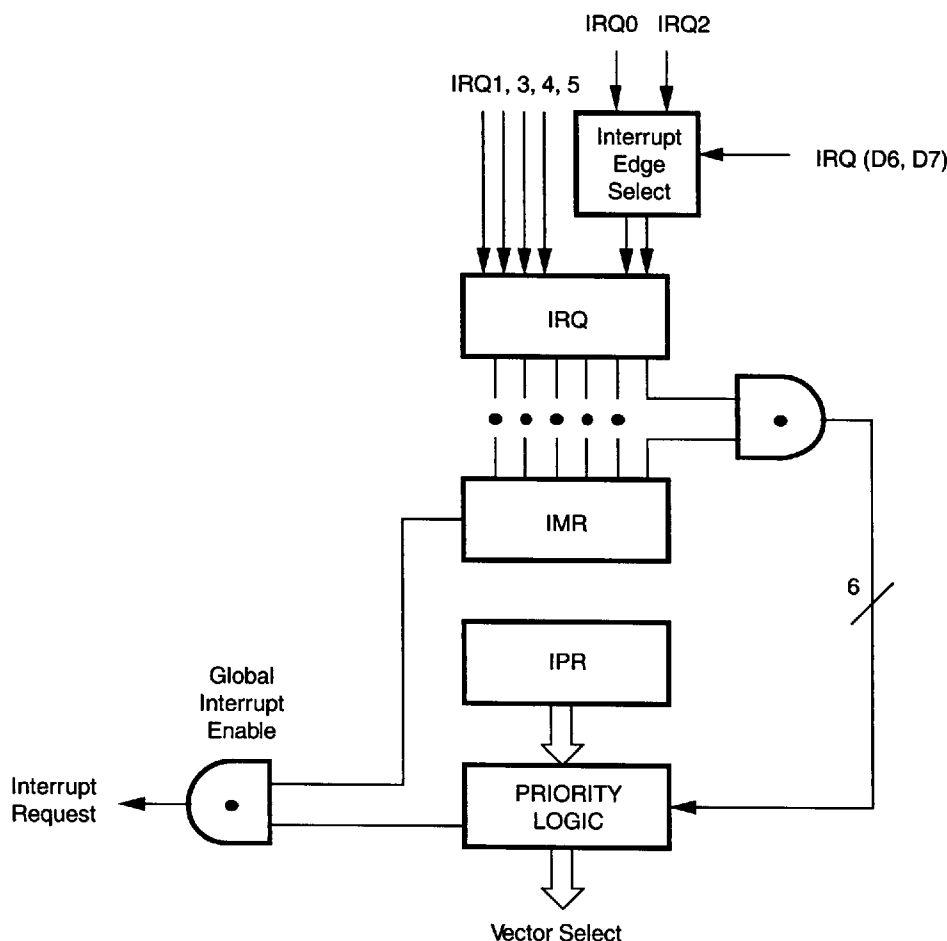

Figure 15. Interrupt Block Diagram
**Interrupts.** The Z87100 has six different interrupts from six different sources. The interrupts are maskable and prioritized (Figure 15). The six sources are divided as follows; two sources are claimed by Port 3 lines P31 and P33, two sources in the counter/timers, one source for the PN modulator and one source for the time base generator. The Interrupt Mask Register globally or singularly enables or disables the six interrupt requests (Table 2).
The PN modulator of the Z87100 is shown in Figure 15. Major elements of the PN modulator include the PN ROM, the PN modulator control logic, the data hold and data shift registers, and the clock select multiplexor and PN and data clock generator.